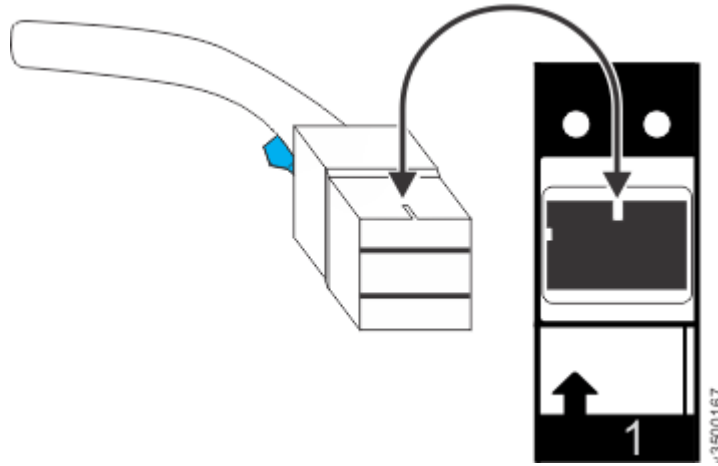

Figure 1. Proper orientation for SAS cable connector
- Figure 1 on page 45 shows the correct orientation. The blue tab is always below the port for expansion enclosure attachment SAS cables.